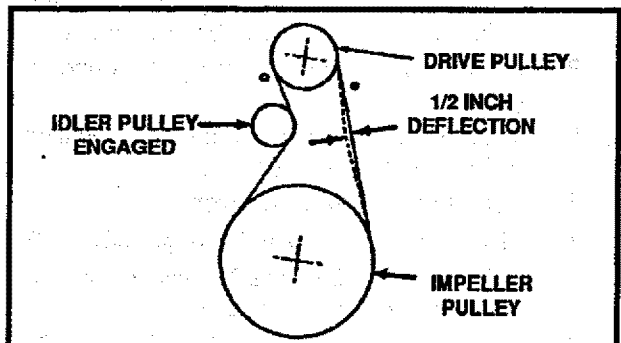

FIG. 26
- Loosen the nut on the idler pulley (See Fig. 26) and move the pulley toward the belt about 1/8".
- Press the auger drive lever. Check the tension on the belt (opposite idler pulley). The belt should deflect about 1/2" with moderate pressure (See Fig. 26).